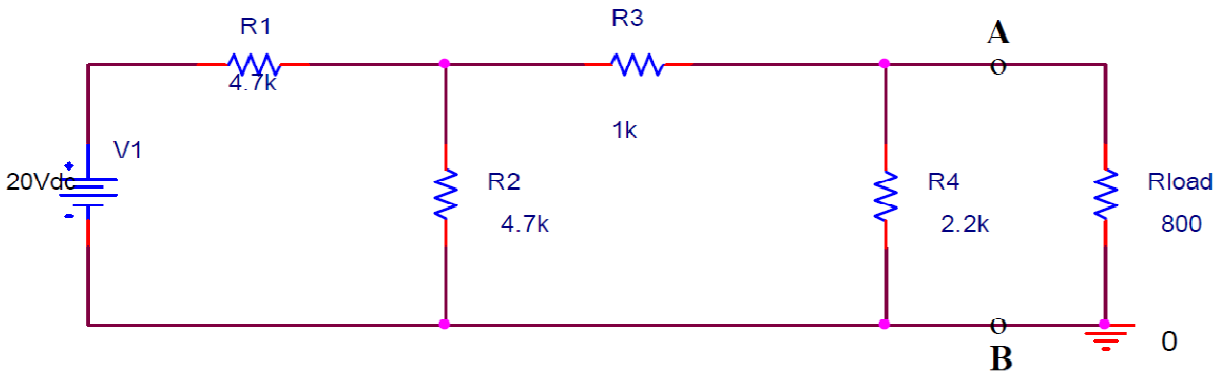

Figure 2: Thevenin Circuit Example
Build the circuit shown below in Figure 2 in PSPICE, and then answer the questions below.
- (1) Simulate the circuit shown in Figure 2 using PSPICE from 0 to 10ms, and plot the current and voltage across the 800 Ω load. Add the waveforms in your prelab report. (Hint – Remember the voltage, and current showed in different axis.)
- (2) Calculate the voltage drop, and current across the 800 Ω load using either nodal or mesh analysis technique.
- (3) Compare the results from steps (2) and (3). Find the % error.